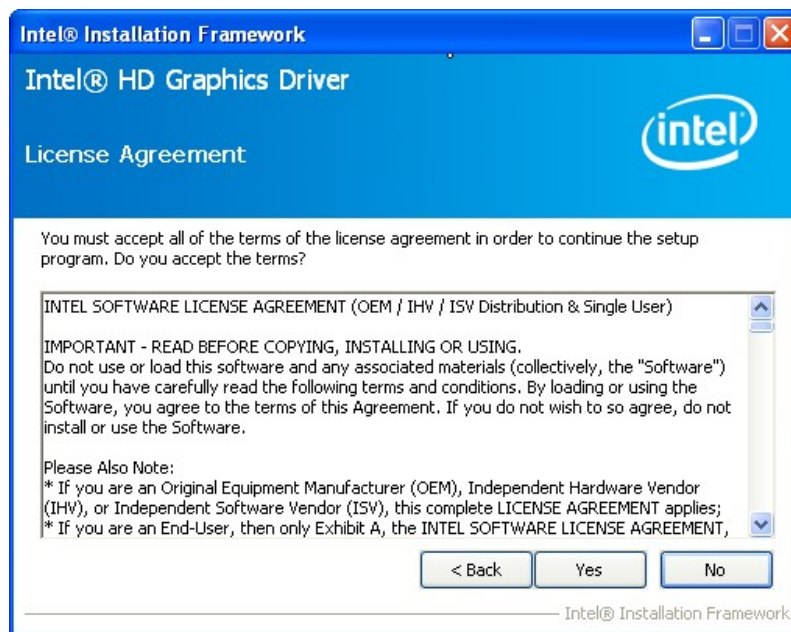

Figure 6-7: Graphics Driver License Agreement
Step 5: The license agreement in **Figure 6-7** appears. Read the **License Agreement**.